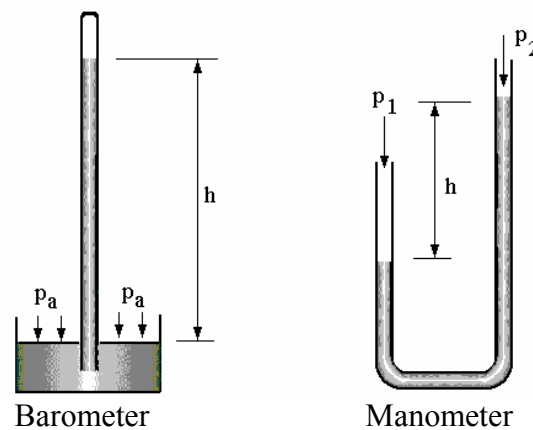

Fig.4
A manometer (fig.4) is used to measure the pressure of gas in a container. One side is connected to the container and the other side is open to the atmosphere. The manometer contains oil of density 750 kg/m^3 and the head is 50 mm. Calculate the gauge pressure of the gas in the container.
2. A manometer (fig.4) is used to measure the pressure of gas in a container. One side is connected to the container and the other side is open to the atmosphere. The manometer contains water of density 1000 kg/m³ and the head is 250 mm. Calculate the gauge pressure of the gas in the container. (2.452.5 kPa)